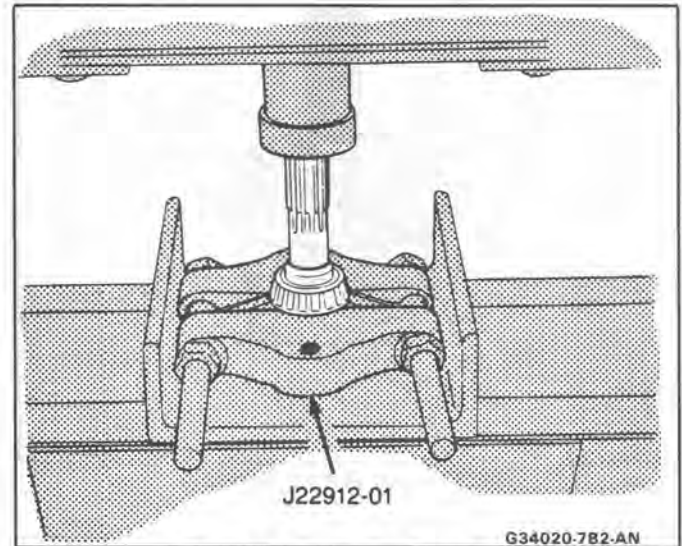

Fig. 21 Front Input Bearing
1. Remove the front bearing using J 22912-01 with a press (Fig. 21).